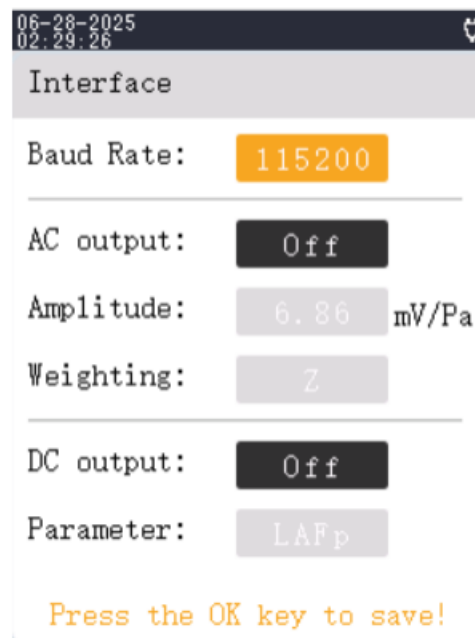
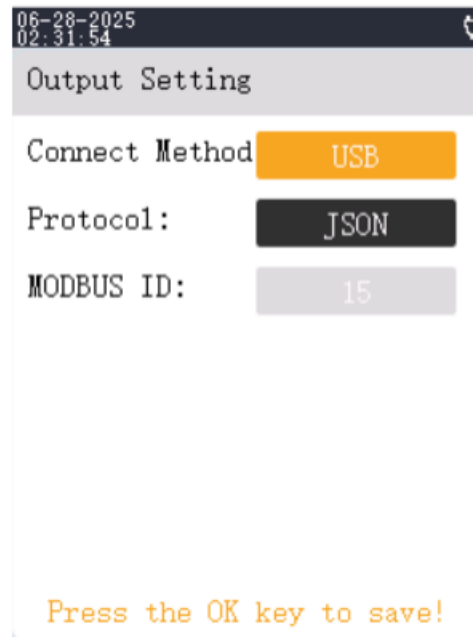

Figure 6.32
Figure 6.40
Select “Interface” in the Settings interface, and press the OK key to enter the Interface settings interface, as shown in the Figure 6.32.
- a. Serial Printing: Connect the instrument and printer via a serial cable. Turn on the printer and ensure the cable is correctly connected. In the Settings > Interface menu, set the baud rate to 115200 (see Figure 6.32). Select “Serial” as the printer connection type and press the OK key to save. Then go to Settings > Output Settings and set the connection protocol to “IO” (see Figure 6.40). Finally, open the data details screen from the data review interface and press the Start key to print.
Select "Output Settings" and press the OK key to enter the Output settings interface (Figure 6.40).